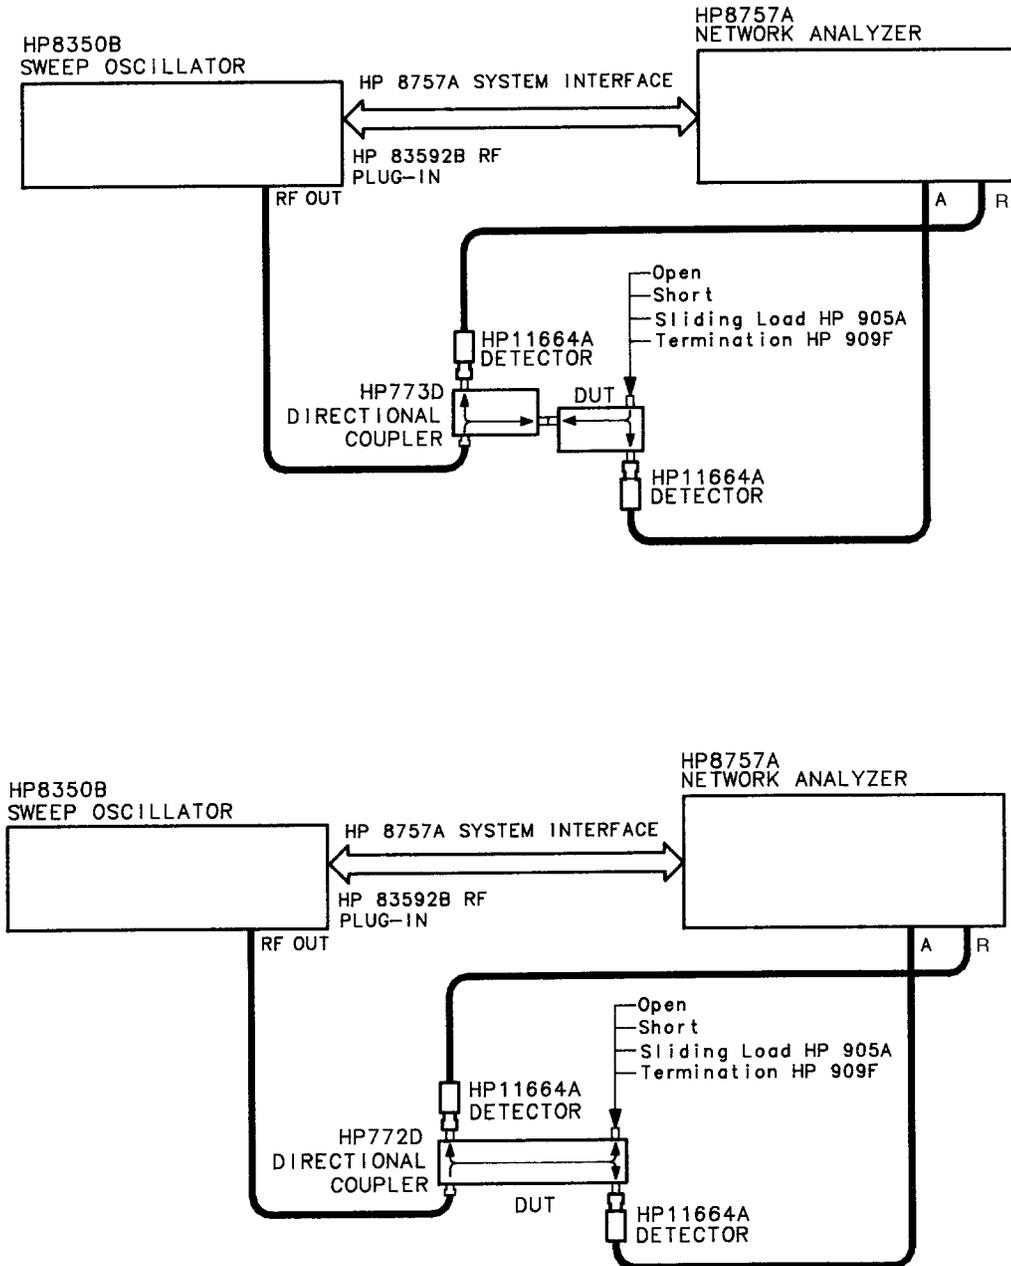

Figure 9 772D/773D Performance Test Setup
To account for frequency response errors and calibrate your test setup, perform the following procedure. Refer to Figure 9 for the test setup used for the performance tests.
1. Connect your 772D or 773D to the test equipment as shown in Figure 9. Set the test equipment controls as follows:
1. Connect the fixed termination as shown in Figure 9.
3. Connect the sliding load as shown in Figure 9. At frequencies of interest, phase (move) the load element. Read the peaks and troughs and calculate the difference in dB (Δ_{dB}). Find the appropriate correction factor ($D_{c_{dB}}$) from Table 3.